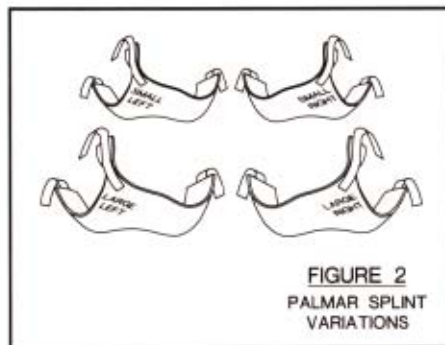

FIGURE 2
- 1 Select appropriate palmar splint see **Figure 2**.